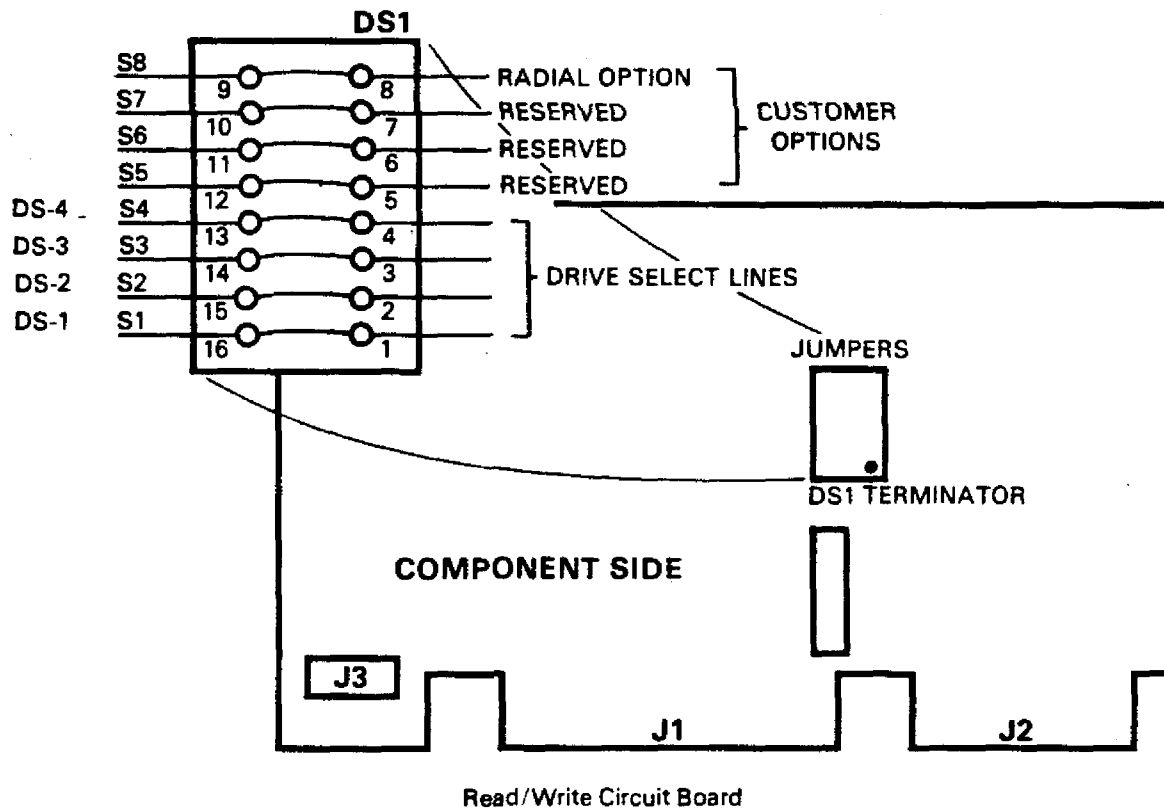

**Figure 3: DRIVE SELECTION OPTIONS
12. The ST506 interface card is factory set to respond as drive 0 (DS-1). See figure 3 for the jumper settings to cause the drive to respond other than drive 0. Place a jumper in the desired location after removing the existing jumper located between pins 1 and 16.